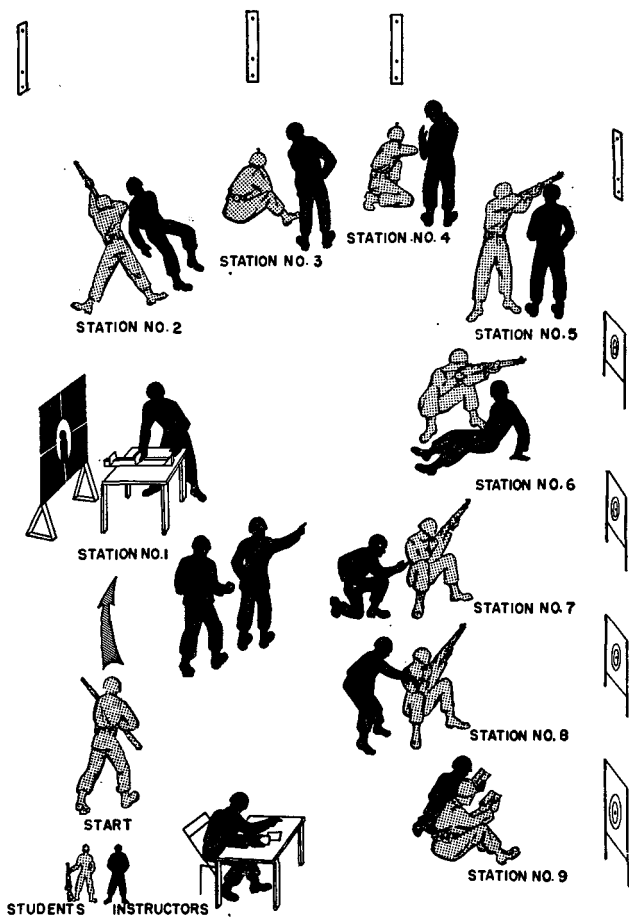

Figure 98. A layout for a county fair method of examination.
- (1) A written test, an oral test, or a practical work examination using the county fair method may be given (fig. 98).
- (2) The county fair method is the most efficient way to conduct the examination.